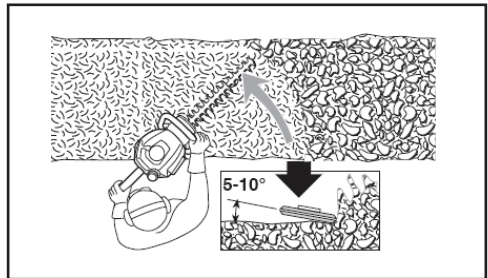

Fig. 10
- After cutting the sides proceed to the top (see Fig. 10).